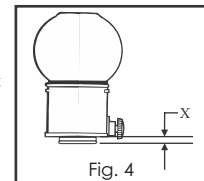
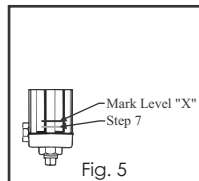
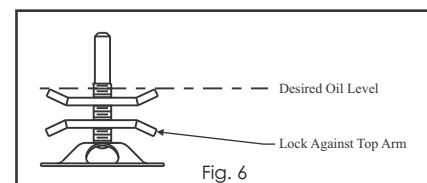

Fig. 4
Fig. 5
Fig. 6
8. Measure the distance between Opto-Matic Oiler bottle and casting edge (Fig 4). Mark this distance above the original line made in step 7 on the outside of the Opto-Matic lower casting (Fig. 5). Now the bottom of the upper casting can be used as an indicator of oil level.
9. Set oil level adjuster (**Opto Laser Level Tool** can be used). Thread top adjuster arm to desired level (Fig 6). Place inside lower casting. Place reservoir assembly over lower casting. Verify the bottom of the upper casting is at the oil level mark on the outside of the lower casting made in step 8 (Fig 5). You may need to adjust the upper arm on the oil level adjuster assembly to obtain the correct oil level.
10. Once the correct oil level is obtained, lock the lower level adjuster arm against the top arm (Fig 6). Place level adjuster assembly in lower casting.